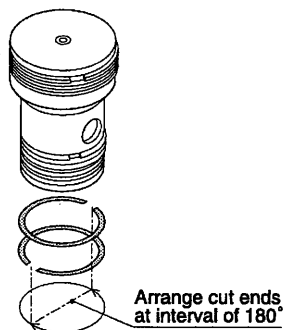

Fig. 39
- (3) If the direction of the ring is wrong, mount it correctly.
- (4) Replace the worn scraper ring.
- (5) When setting scraper rings into piston ring grooves, put the R-mark side of each ring upside and arrange the cut ends at interval of 180° so that the cut ends will not be aligned. (Fig. 39)